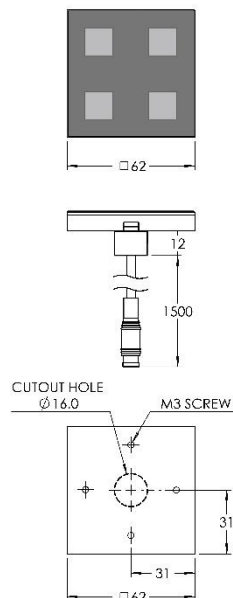

Fig.1 Touch Panel
1. For Touch Panel (Fig. 1) : Drill a  $\varnothing 16\text{mm}$  hole for cable passage and seal edges (if needed), mount the Touch Panel using 4xM3 screws. Make sure the Touch Panel in correct direction by removing the front cover and rotate until the label aligned. Do not put on the front cover until you complete the switch function setup in step 3.